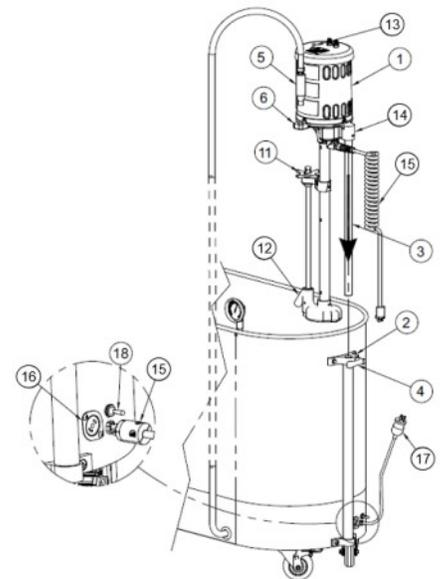

Figure 2: Whirlpool with -SDP option
- For models with a separate drain pump (-SDP, see Figure 2):
2. Loosen handle (4) then lower turbine support rod (3) into turbine support tube (2) of tub. Tighten handle (4) when turbine is at desired height.
3. Place discharge nozzle (5) into storage socket (6). For -SDP only (Figure 2): water will flow through hose if discharge nozzle (5) is lower than water level.
4. Turn the pressure control valve handle (11) fully clockwise, then fully counterclockwise to completely lubricate the plunger assembly.
5. For Whirlpools with -SDP only (Figure 2): Insert electrical cord twist-lock plug (15) into socket (16) and turn clockwise a quarter turn to lock in place. Ensure plug cover is firmly against the receptacle (16).
6. Turn the turbine power switch (13) off.
Whirlpools with separate drain pump (Figure 2)